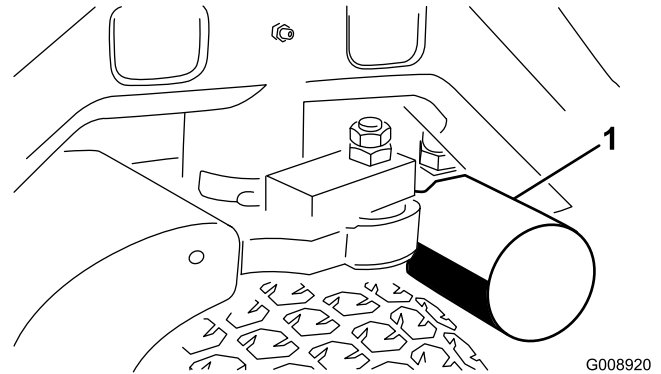
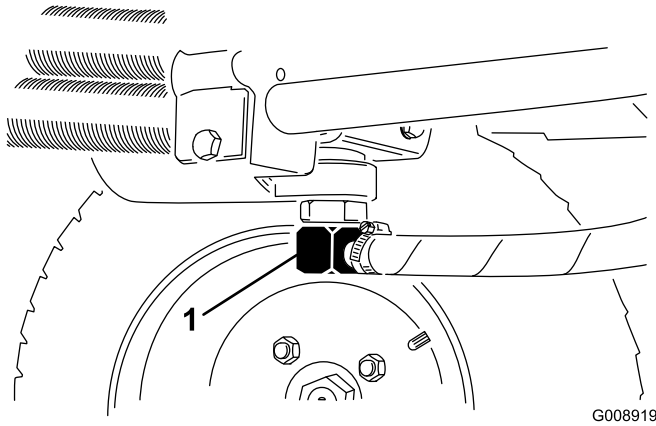

Figure 61
Figure 62
3. Clean around the filter mounting area. Place a drain pan under the filter (Figure 61) and remove the filter.
2. Disconnect the hydraulic line (Figure 62) or remove the hydraulic filter (Figure 61) and let the hydraulic fluid